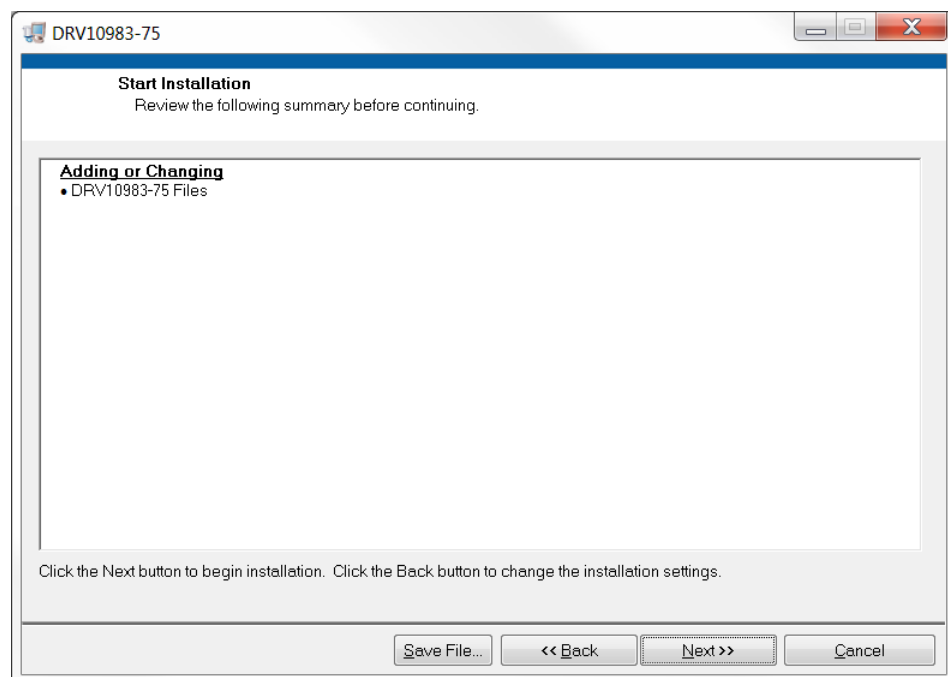

Figure 14. GUI Start Installation
5. The screen shown in Figure 14 appears. Click *Next >>* to begin installation.